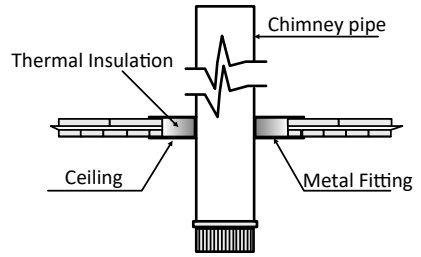

Fig.2
5. Appropriate firebreaks/firewalls must be installed when a section of the chimney passes through floors and/or ceilings. The insulation will be at least 50mm thick from the flue to the structure. It is necessary to protect the walls with wall protectors when the chimney is not at the indicated safe distance and damage may occur. (See Fig. 2.)